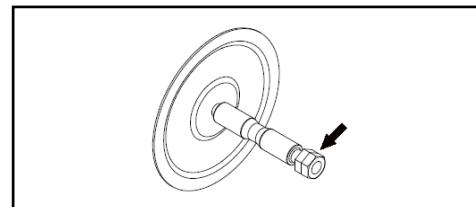

Figure 39
- Remove the nuts on the opposite side using the double nuts. (See Figure 39)